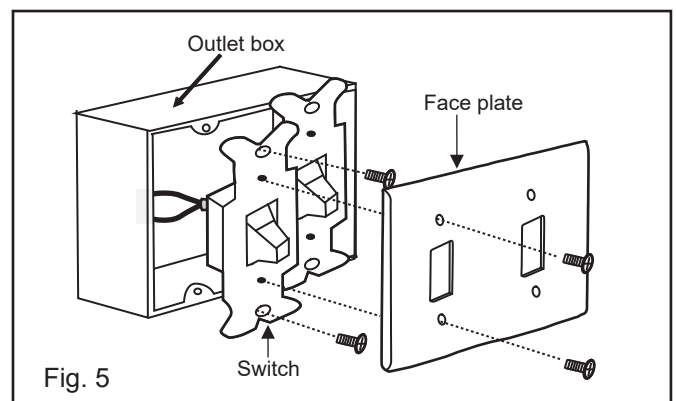

Fig. 5
1. Remove the existing wall plate and old switch from the wall outlet box. (Fig. 5)